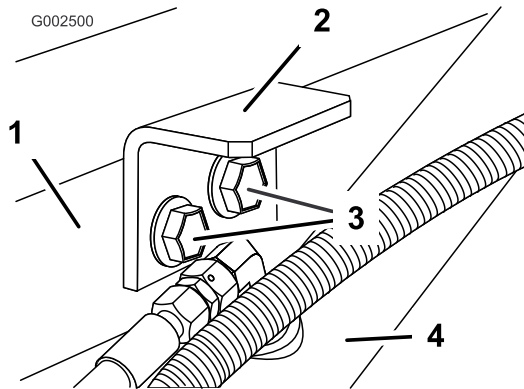

Figure 18
- Install the hold-down brackets using the two bolts and flange nuts removed previously (Figure 18).